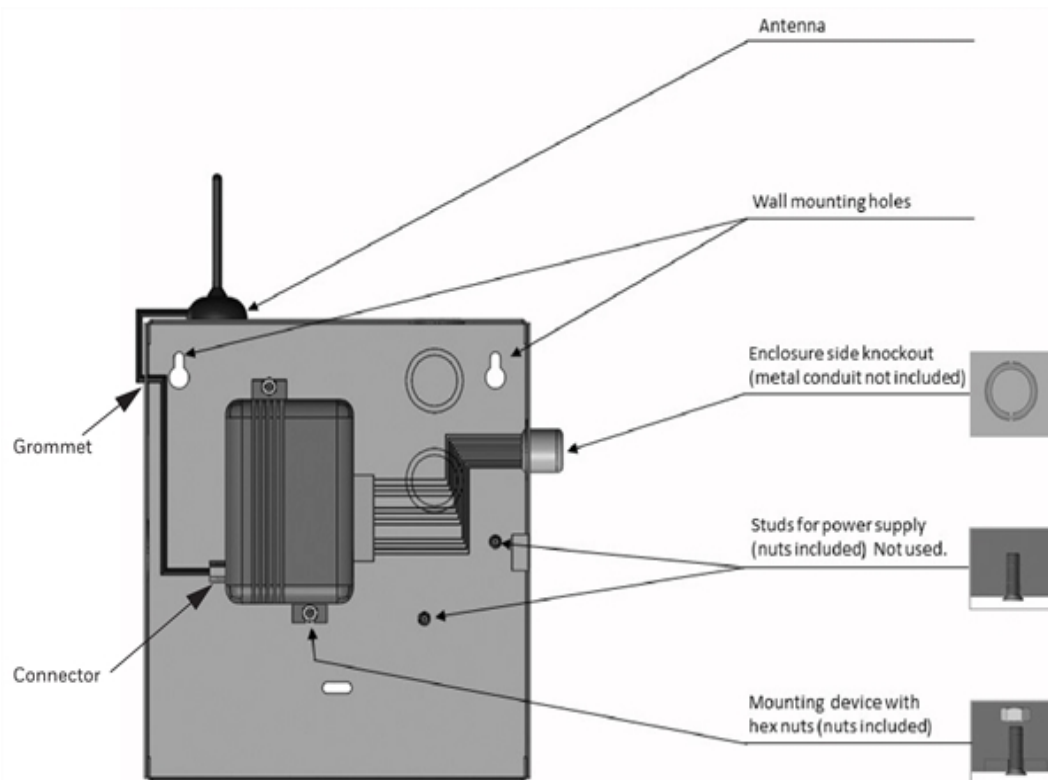

Figure 5-1: Mounting the CLSS Pathway into the Enclosure
05. Mount the enclosure onto the two mounting holes as shown in Figure 5-1: Mounting the CLSS Pathway into the Enclosure and secure it with the supplied hardware.
01. Route the antenna cable through the small rubber grommet located on the top left side of the enclosure as shown in Figure 5-1: Mounting the CLSS Pathway into the Enclosure.